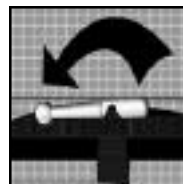

Figure 25
2. Turn toggle so that it lies parallel to the black webbing. **See figure 25.**